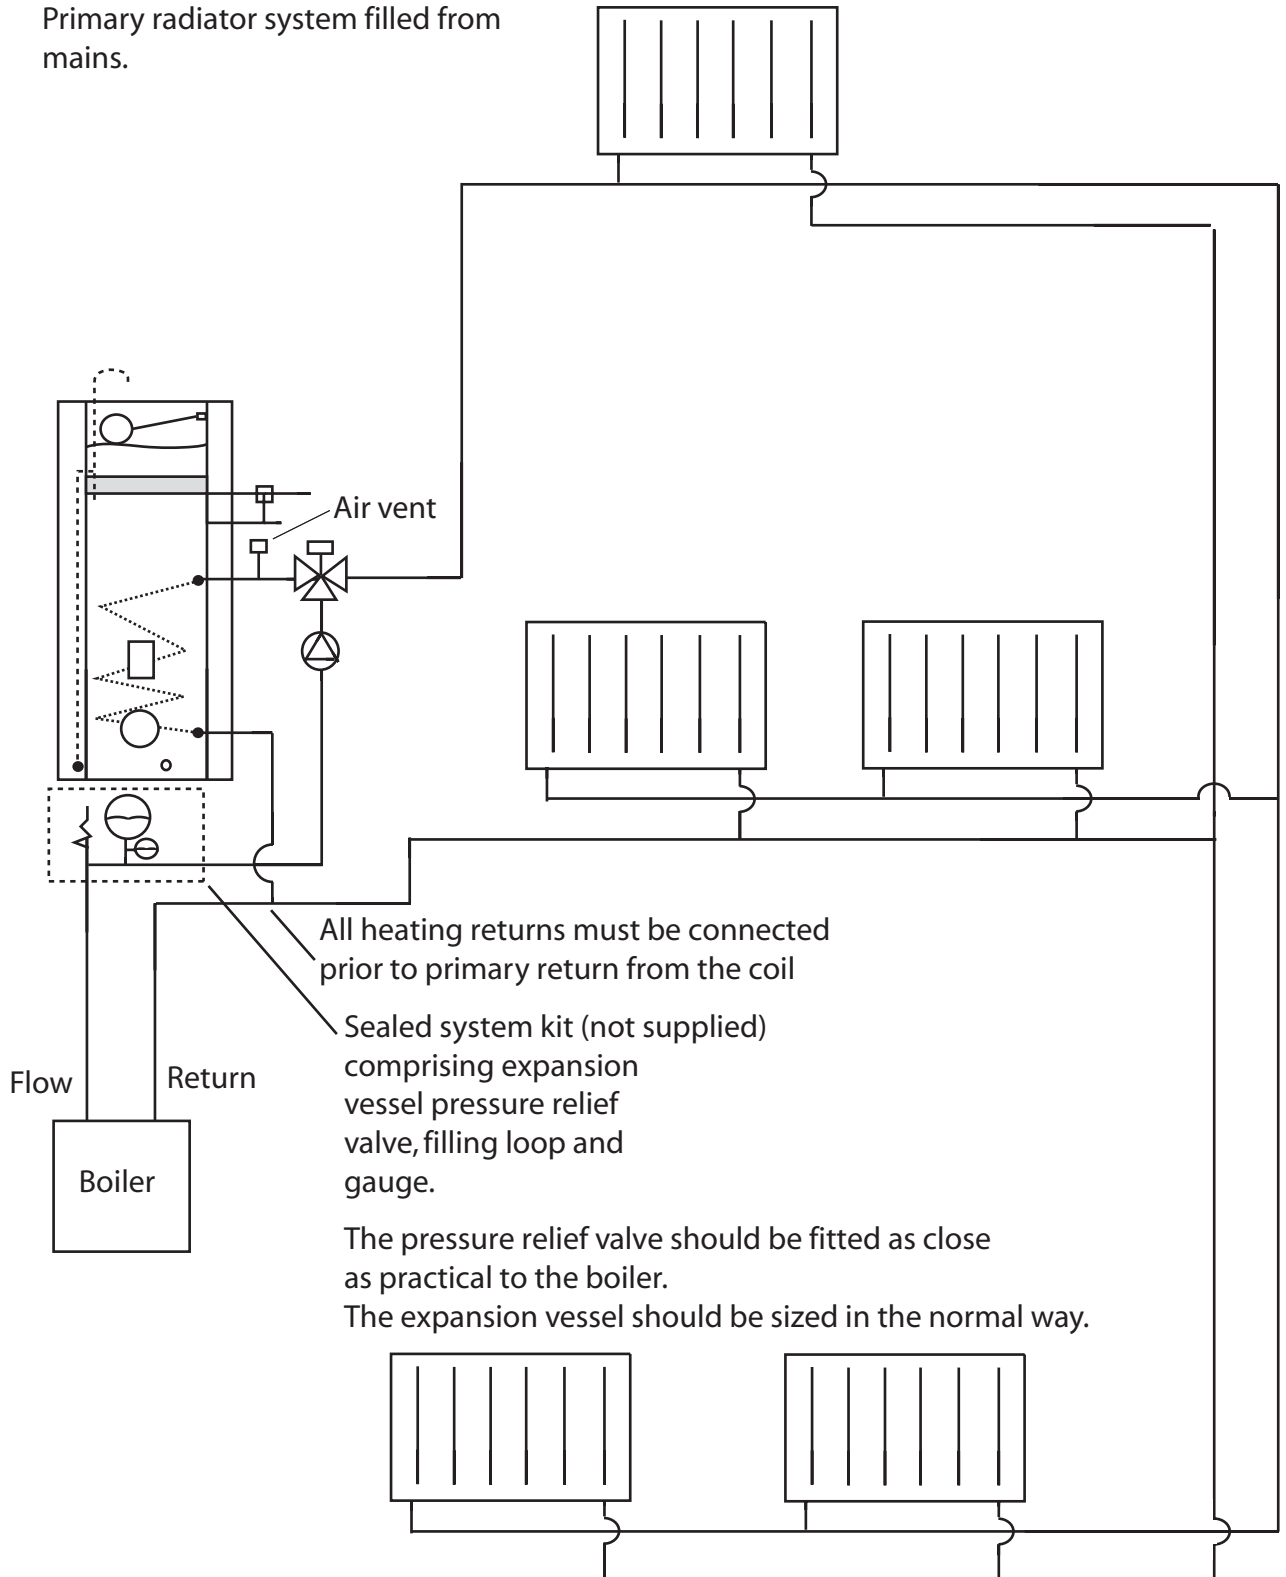

Figure 6
In a sealed heating system (Figure 6) the primary store water does not mix with sealed heating circuit. Therefore water treatment must be introduced via header tank for the primary store and via radiator for the heating circuit.
TORRENT INDIRECT - SEALED HEATING SYSTEM (FIGURE 6)
1. Only boilers suitable for sealed system must be used in this configuration and a typical arrangement is shown in Figure 6.